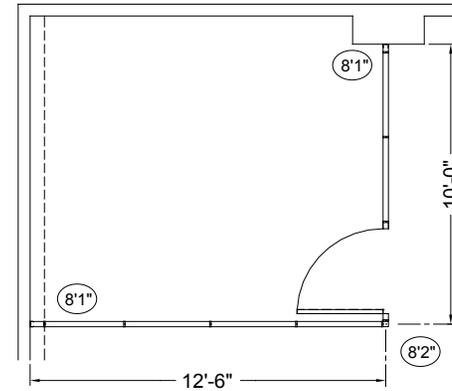

Figure 1
**A** Ceiling measurements should be taken at corners and foreign walls. On long spans, measurements should be taken every 10 feet. A drawing similar to the floor plan shown in **Figure 1** must accompany every order. Indicate the measurement from the floor to the underside of the ceiling tile and circle it as shown in **Figure 1**.